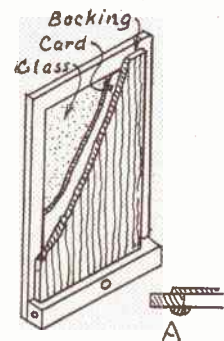

Fig. 2
Now to make a rebate for the glass to fit in, glue strips of ¼in. half-round moulding down each side of the opening and along the top, mitring the corners. These strips should overlap the opening by ⅛in. full, as in detail (A), Fig. 2. If no moulding is at hand, strips of thin wood ¼in. wide can be used.
opening. Cover with white paper and fill up the remaining space with one or more pieces of cardboard. Cover the whole with a piece of thin wood (plywood if you like) as shown in the rear view of the frame, Fig. 2. At each end of the ½in. wood strip, at the bottom, bore a small hole exactly in the centre.